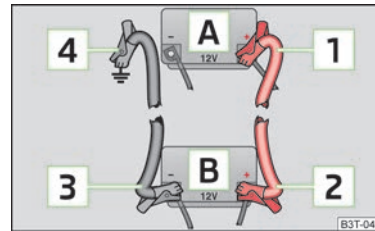

Fig. 135
- Attach one end [1] » Fig. 135 to the positive terminal of the discharged battery [A].
- Attach one end [3] » Fig. 135 to the negative terminal of the battery supplying the power [B].